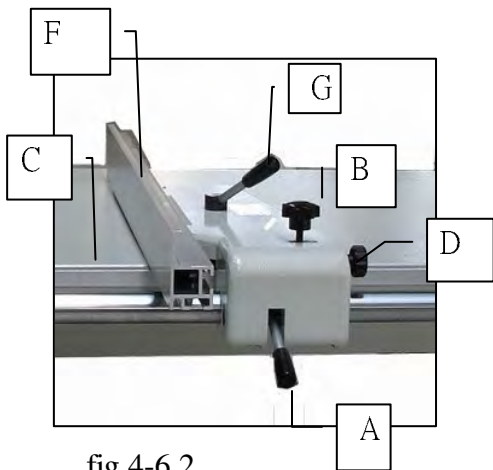

fig 4-6.2
- Lift lever A(fig 4-6.2) for unlocking the fence unit.
- Move the fence unit near the desired measure as much as possible ( read out the value on millimeter rule C(fig 4-6.2))
- For micrometric setting rip fence,turn knob B(fig 4-6.2) clockwise for locking rip fence, unlock lever A (fig 4-6.2), turn knob D(fig 4-6.2)
- After reaching the measure, lock the fence unit by lowering lever A(fig 4-6.2)
Rule F(fig 4-6.2) can move in longitudinal direction after unlocking handles G(fig 4-6.2) ; after every adjustment, tighten handles
- Vertical position F(fig 4-6.2) turn to the workpiece
- Tighten the handle G(fig 4-6.2)
- Loosen lever A(fig 4-6.2)
- Loosen knob B(fig 4-6.2)